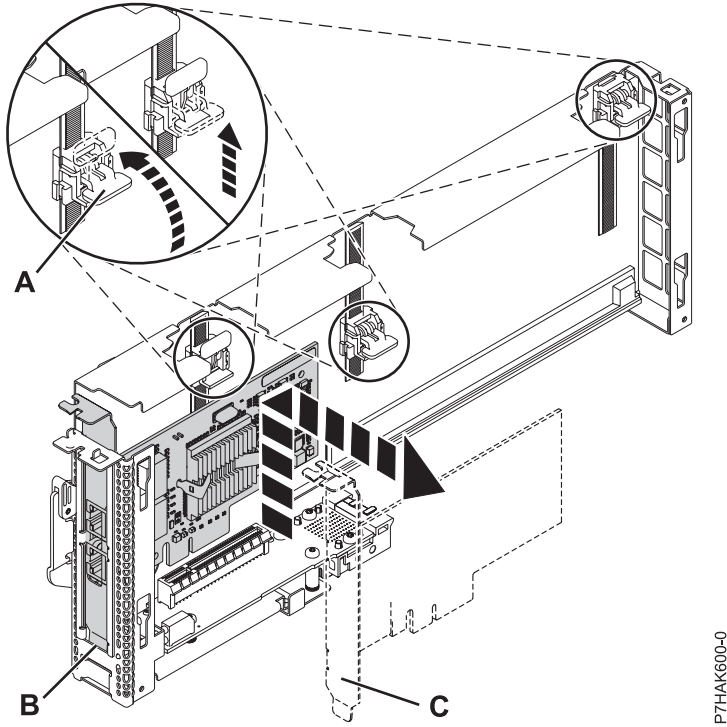

Figure 25. Adapter removed from the PCI adapter cassette
- a. Unlock the adapter retainers by rotating the retainer clips (A) into the horizontal position. See Figure 25 on page 34.